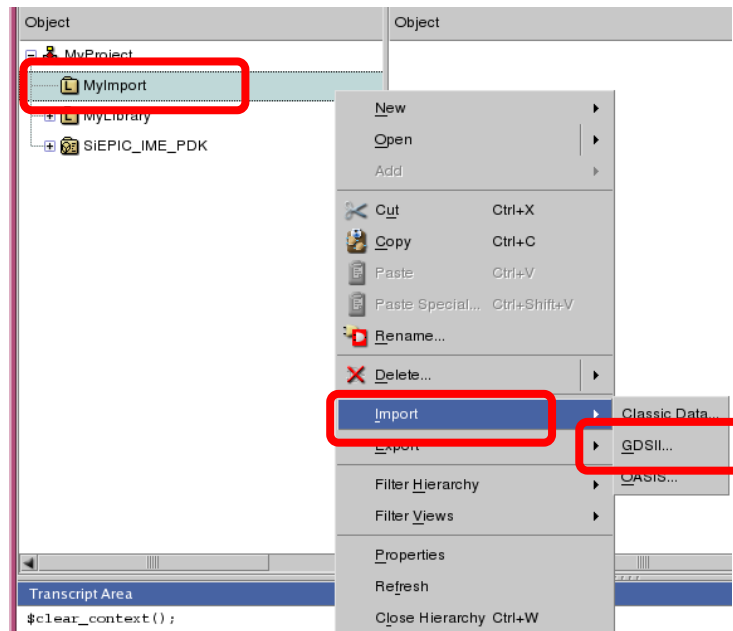

Figure 51: Importing a GDSII File
2. Right-click the new library then, in the dropdown menu, choose **Import | GDSII** (see Figure 51).